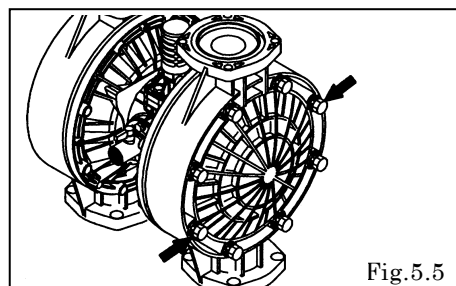

Fig.5.5
- Remove the 16 (24 on the NDP-H80) retainer bolts from the out chamber, and remove the out chamber. [Fig.5.5]